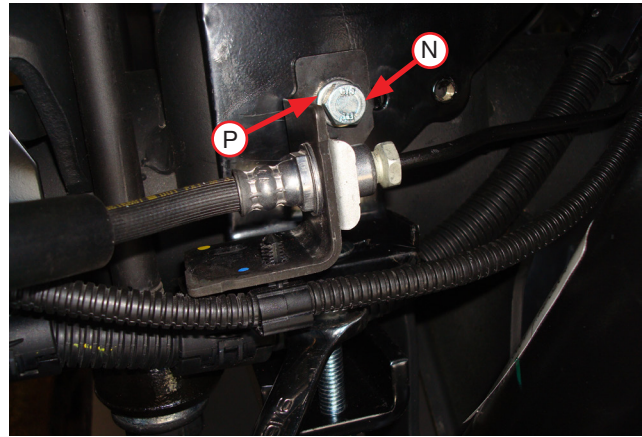

Fig. 19
6. Reattach the stock brake line/ABS brackets removed in the *Preparing the Vehicle* section using the M8 hex cap screws (N) and M8 flat washers (P) (Fig. 19). Tighten both sides securely.